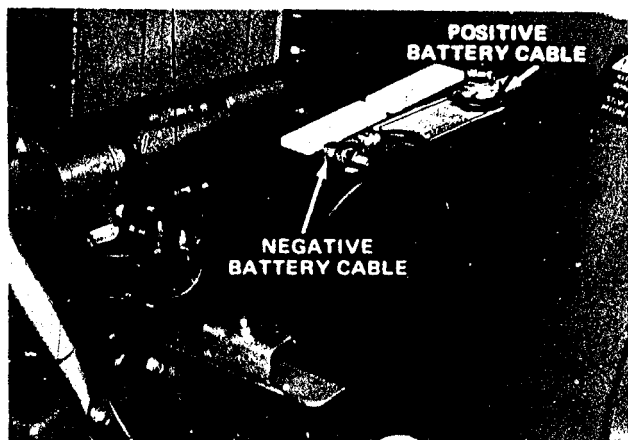

Figure 17
3. In sequence, slide positive and negative battery cables off the battery posts (Fig. 17). Next, lift battery off mounting plate and set it aside.
1. Set battery onto mounting plate of snowthrower. Battery posts must be to the outside, not toward the fuel tank (Fig. 17). Allow about one inch of the battery to extend over outside of mounting plate (Fig. 17).
2. Push clamp at end of black battery cable, which is grounded to engine, onto smallest diameter, negative (-), battery post (Fig. 17). Tighten clamp retaining nut. Next, push clamp at end of black battery cable with red band, which is connected to the solenoid, onto the largest diameter, positive (+), battery post (Fig. 17). Tighten clamp retaining nut.
NOTE: Battery cables must be specially routed on and around the battery (Fig. 17).
3. Install cover on top of battery. Next, slide battery completely onto mounting plate. Secure battery in place with cap screws, battery hold-down clamps, and nuts (Fig. 17).